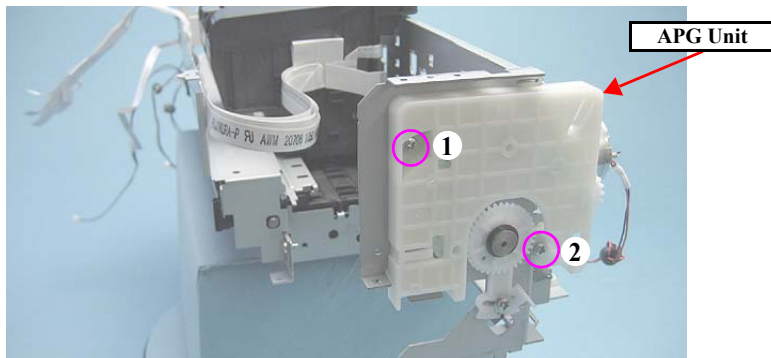

Figure 4-90. Removing the APG Unit
- Tighten the screws in the order given in Fig.4-90.